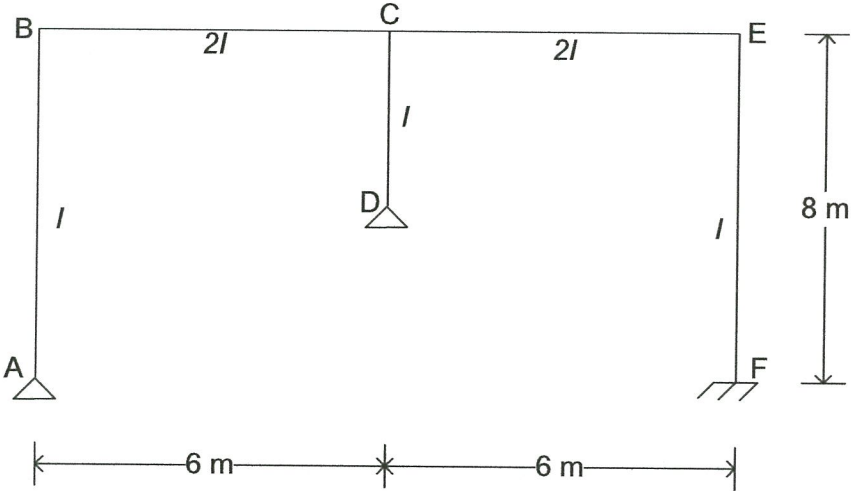

FIGURE Q3(b)
- (b) **Figure Q3(b)** shows a warehouse non-sway frame pinned supported at A and D while fixed support at F. The frame is uniformly loaded throughout span BC and CE with 15kN/m load. Column CD is half the height of column AB. All frame members were made of mild strength steel.